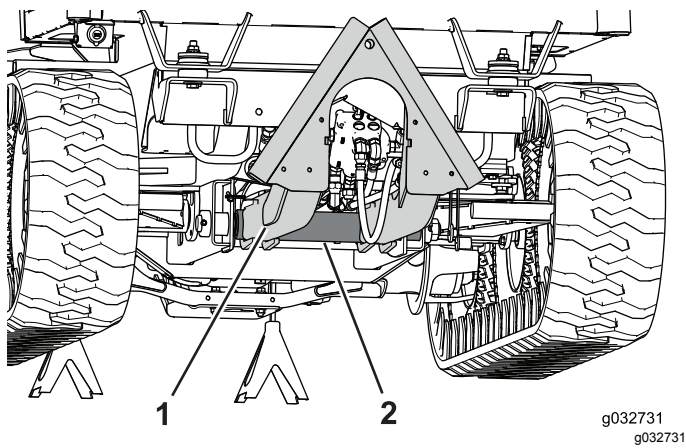

Figure 105
3. Position a floor jack under the pivot point for the attachment assembly and raise the front of the frame until the center wheels swing back, nearly contacting the rear wheels. (Figure 105).